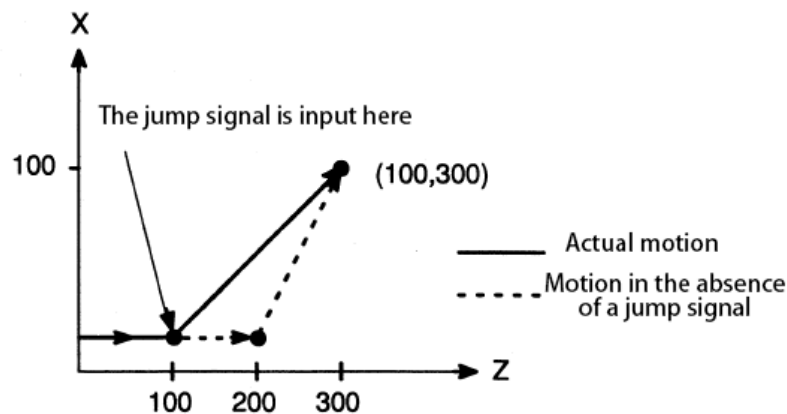

Figure 3-15
3. The next program segment of the G31 is the absolute coordinate programming of the 2 axes, as shown in Figure 3-15